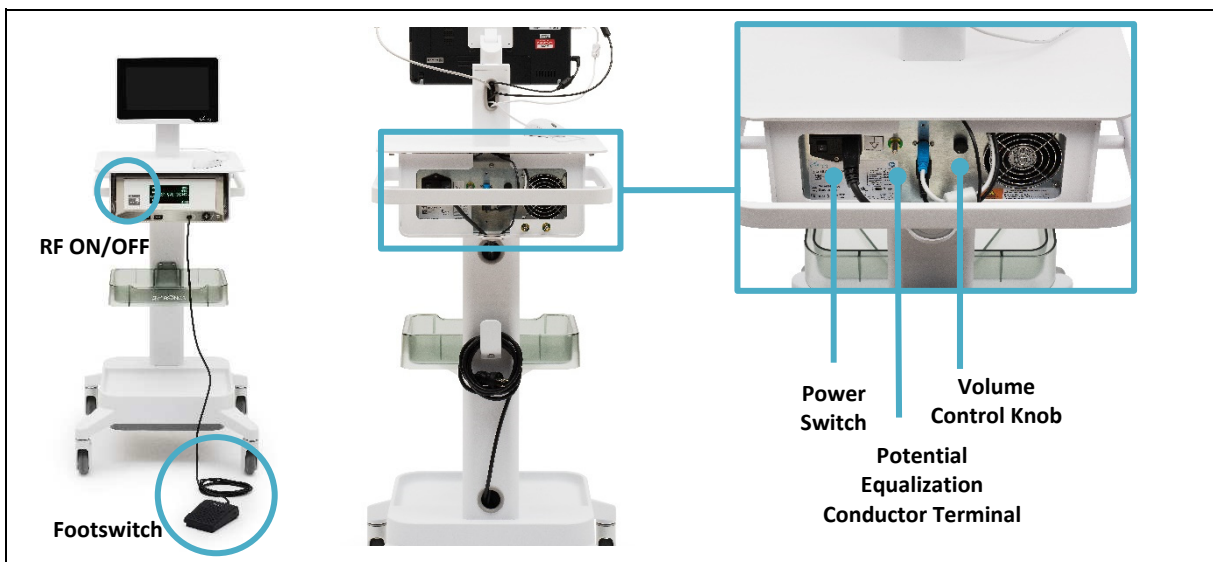

Figure 2-10. Connections and Controls on the RF Generator.
Operator-adjustable controls and connections for the RF Generator include (see Figure 2-10):
- RF Generator Power Cord – housed in the system cart, plugs in receptacle next to ON/OFF power switch, see Figure 2-10.
- Potential Equalization (PE) Conductor Terminal – provides connection between the RF Generator and the Cart.